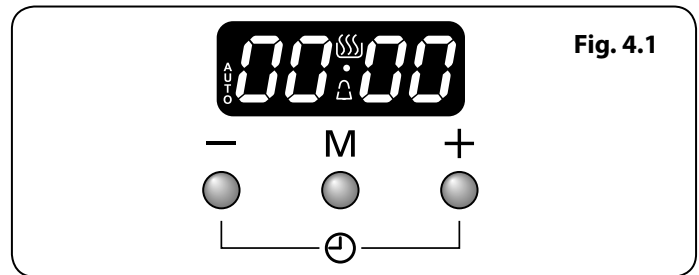

Fig. 4.1
1. The LCD clock is shown in **(Fig. 4.1)**. Once the cooker is connected and switched on, the display flashes (:00.00) and the time starts from (:00.00).